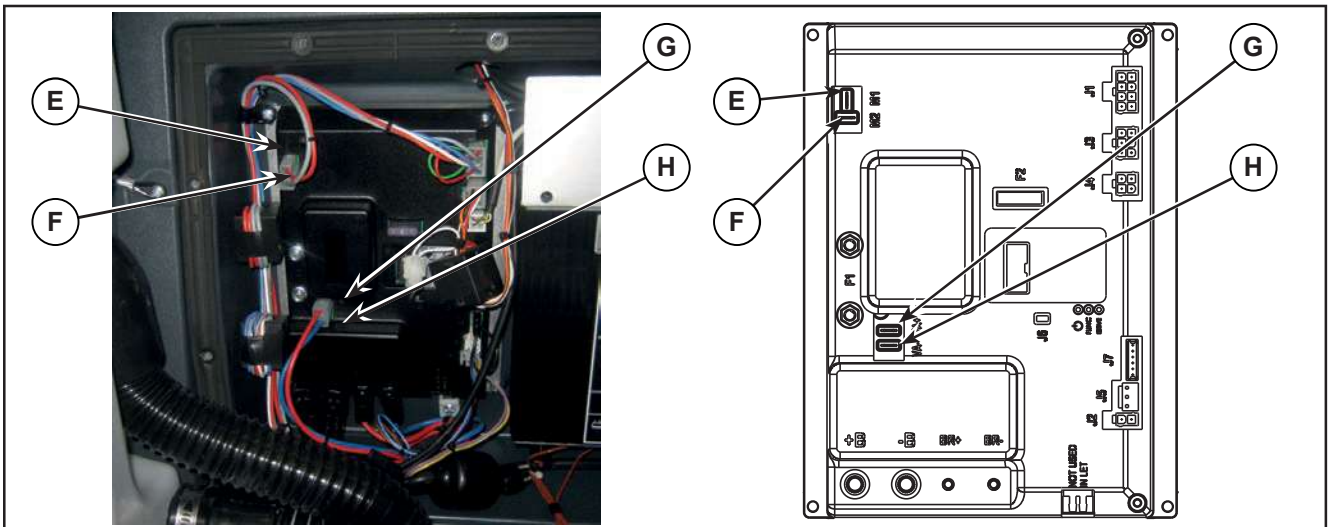

Figure 12:
5. Disconnect the following connections sequentially (Figure 12):
- (E) and (F) Drive system motor connection (M1) and (M2).
- (G) and (H) Vacuum motor connection (VA+) and (VA-).